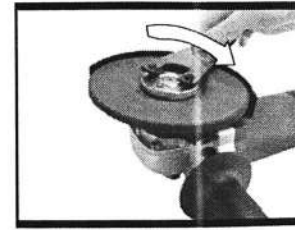

Fig. D3
Screw on the outer flange (7). (See Fig. D3)